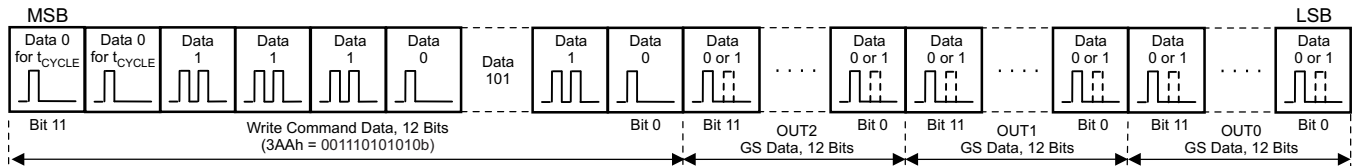
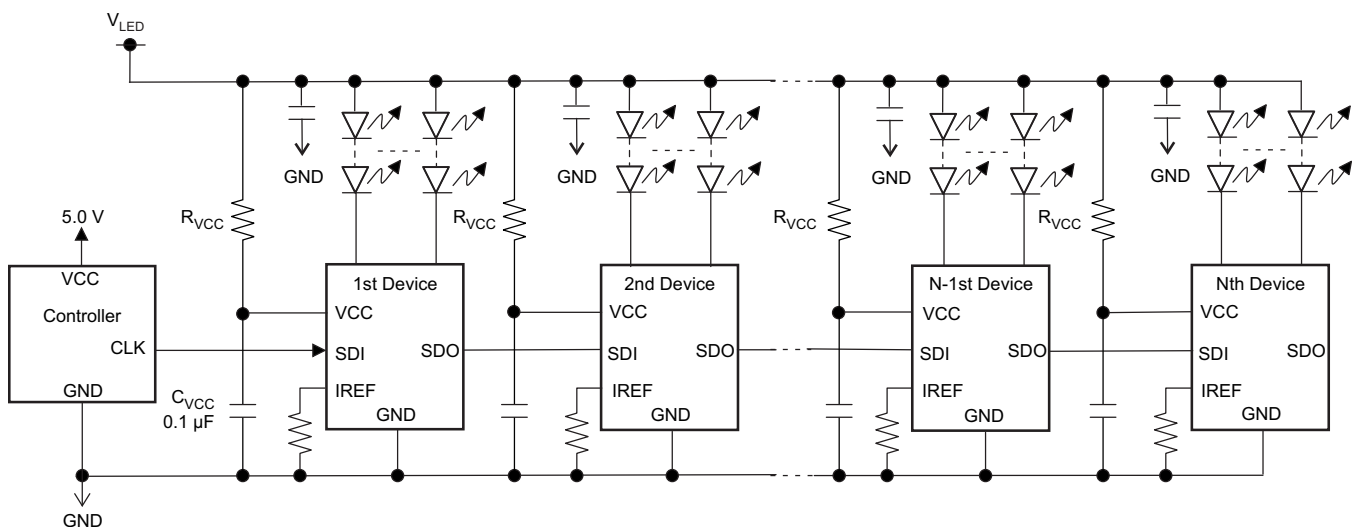

Figure 22. 48-Bit Data Packet Configuration for One TLC5973
Figure 23. Cascade Connection of N TLC5973 Units (Internal Shunt Regulator Mode)
The 12-bit write command and 36-bit grayscale (GS) data for OUT0 to OUT2 (for a total of 48 bits of data) must be written to the device. Figure 22 shows the 48-bit data packet configuration. When multiple devices are cascaded (as shown in Figure 23), N times the packet must be written into each TLC5973 in order to control all devices. There is no limit on how many devices can be cascaded, as long as proper VCC voltage is supplied. The packet for all devices must be written again whenever any GS data changes.